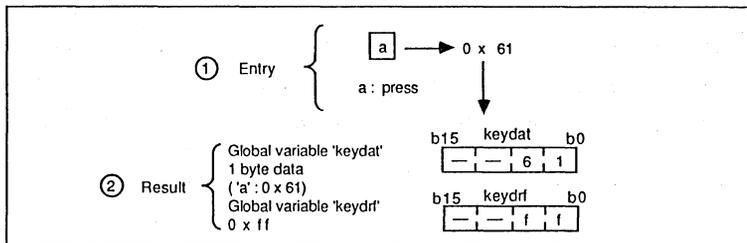

Figure 4-8. Program Module expip Execution Example
**Example:** Figure 4-8 shows an example of program module 'expip' execution. If key "a" on the console typewriter is pressed as shown in ①, the received data is put in the key data buffer and 0xff is stored in 'keydrf' as shown in ②.